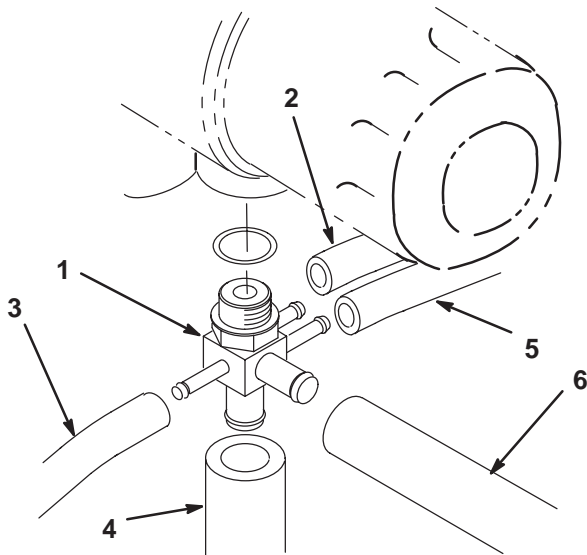

Figure 15
30. Install the new special fitting (Part No. 92-5640) into the bottom of the transmission (Fig. 15). Position the fitting so that the side with the two openings points toward the right side of the machine.
31. Install the lift cylinder hoses and return hose to the new cross fitting. Position the hoses as shown in Figure 15.